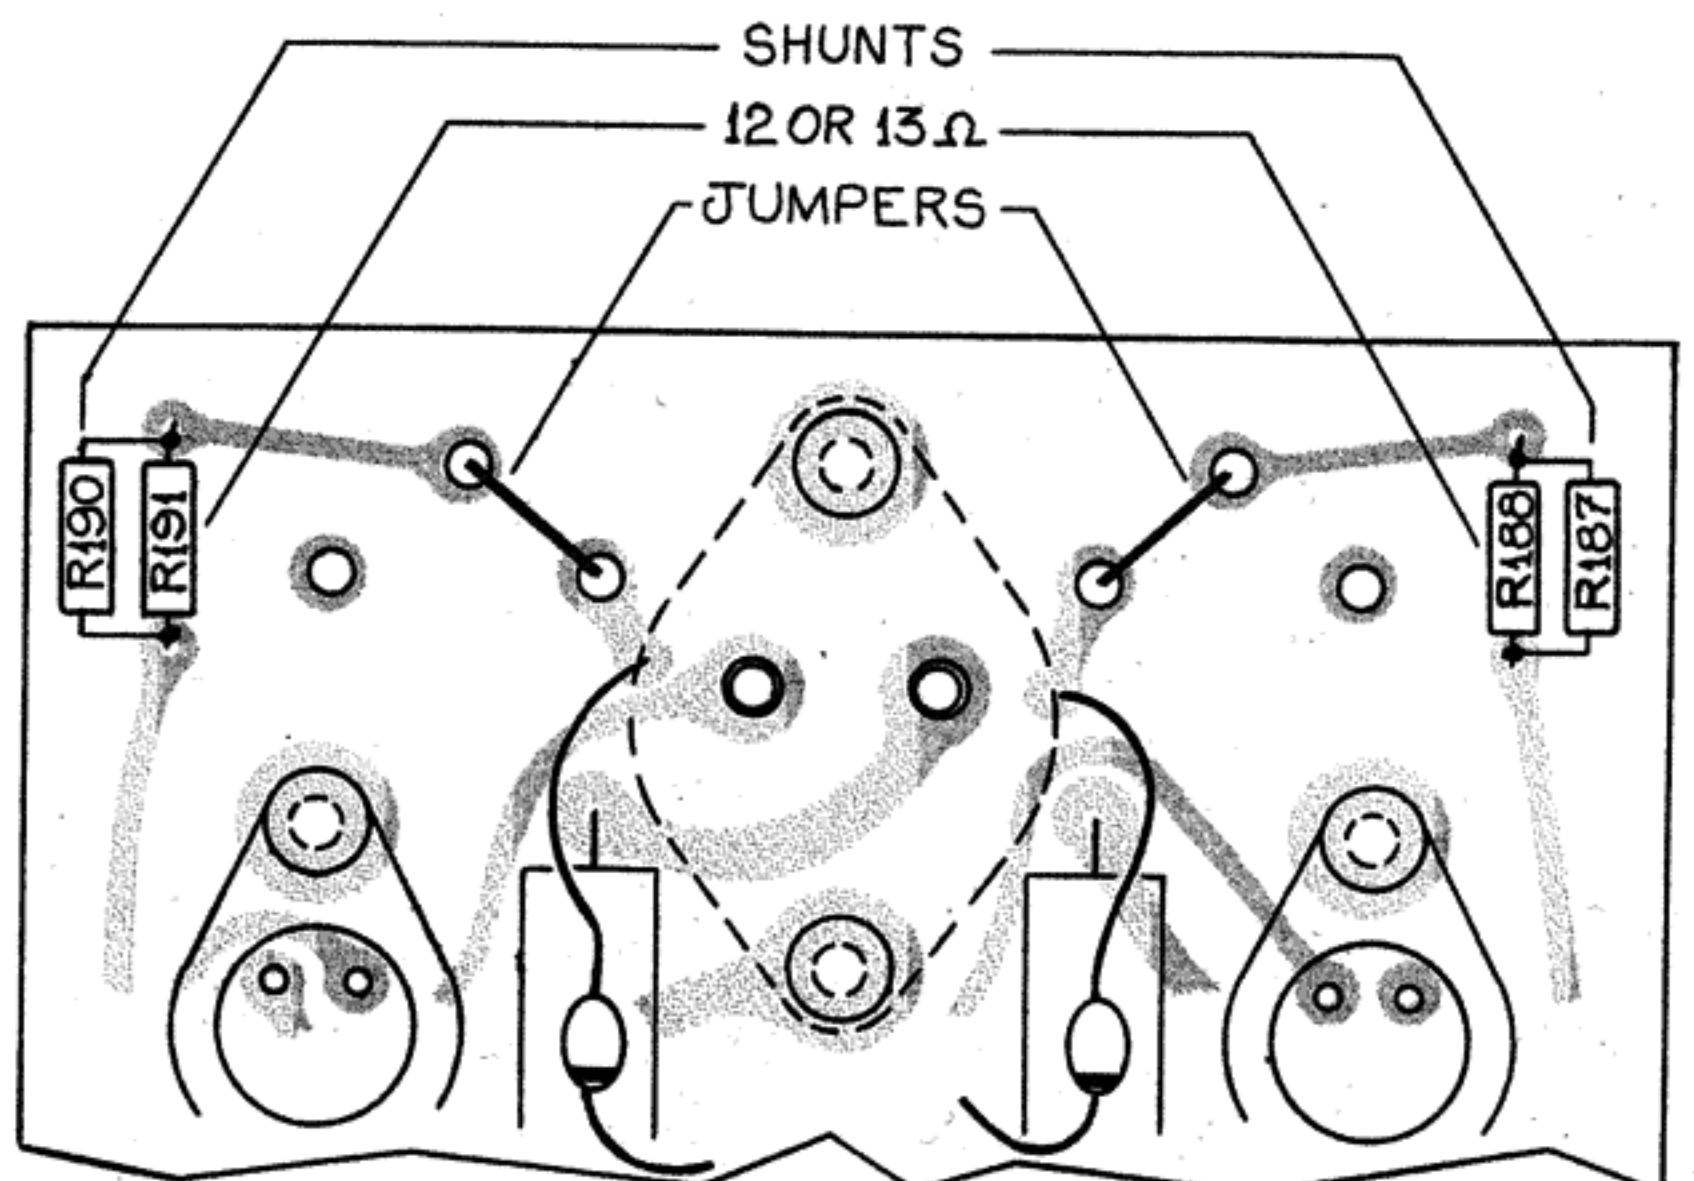

FIGURE 12
d. **Power Supply:** All small components are on a board, instead of the point-to-point wiring of the amp. (See Figure 12.)